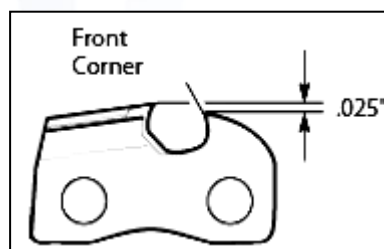

Figure 14
3. Remove depth gauge tool. With flat file, round off front corner of cutter depth gauge (see Figure 14).